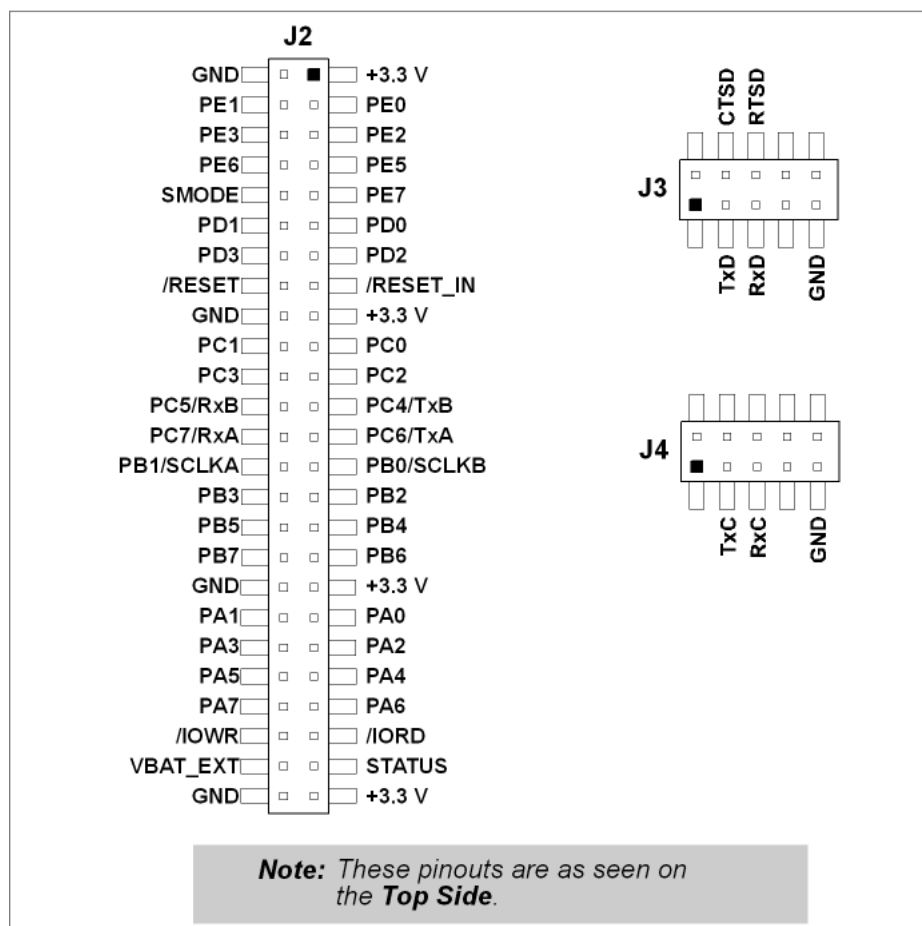

Figure E-4. Serial Communication Accessory Board Pinout
- **Module Extension Headers**—The complete pin set of the MiniCore module is duplicated below header J2. Developers can solder wires directly into the appropriate holes, or, for more flexible development, a 2×25 header strip with a 0.1" pitch can be soldered into place. See Figure E-4 for the header pinouts.
The Serial Communication accessory board provides the user with MiniCore connection points brought out conveniently to labeled points below header J2. The pinouts for header socket J2 and the RS-232 headers at J3 and J4 are shown in Figure E-4.